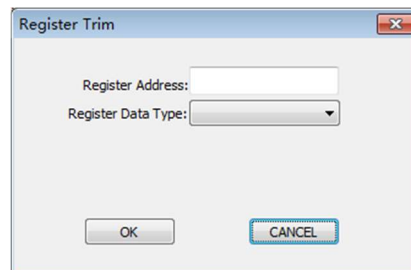

Figure 5.29 Read register input
- Click the "Calibration "->" Register "->" read hold register" to pop up the "register" window, as shown in Figure 5.29:错误!未找到引用源。